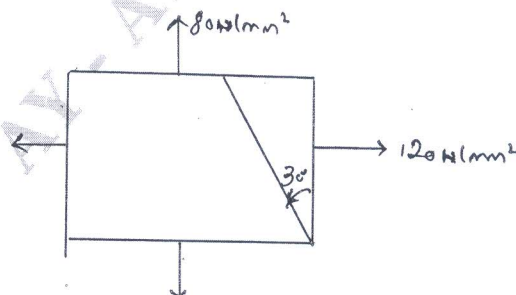

Fig Q3(b)
- The direct stress acting at a point in a strained material is as shown in Fig Q3(b). Find the normal, tangential and resultant stresses on a plane 30° to the plane of major principal stresses; find the obliquity of resultant stress also.